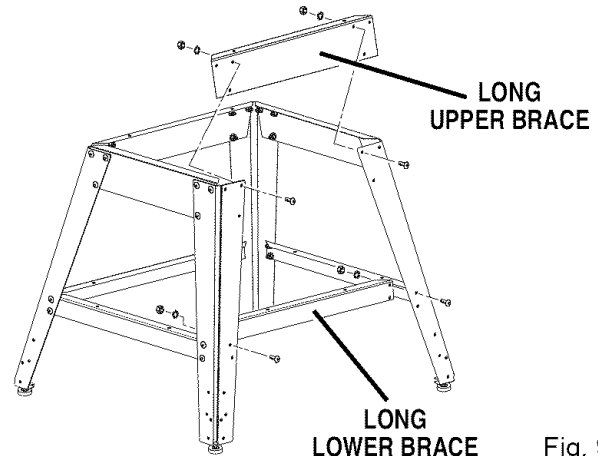

Fig. 9B
- Connect the leg sets with a long upper brace. Add the hardware and finger tighten. Repeat for the other side brace, then install the long lower braces. See Figure 9B.